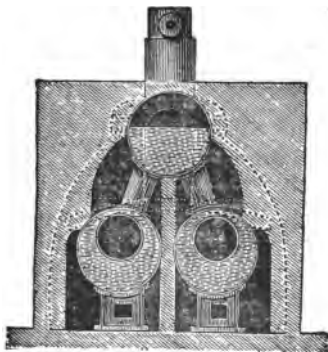

FIG. 12.—THE FAIRBAIRN BOILER.
A. It is shown in Figs. 12 and 13, and is practically an internally fired